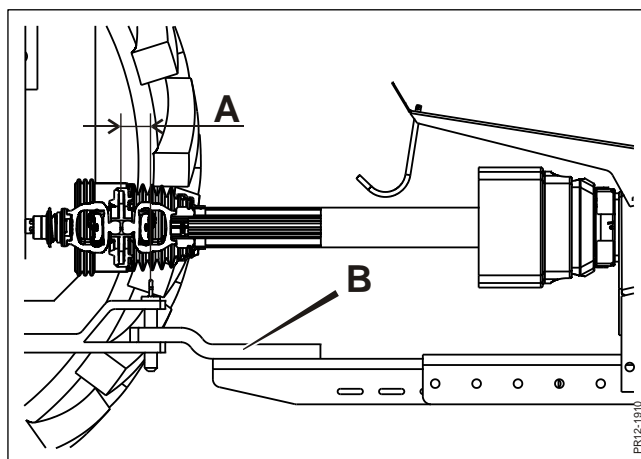

Fig. 2-15
**Fig. 2-15** The tractor's drawbar **B** is then placed so that distance **A** is as small as possible. The extension is then fitted to the machine and the tractor. It may be necessary to adjust the height of the machine and the position of the tractor to make it fit.